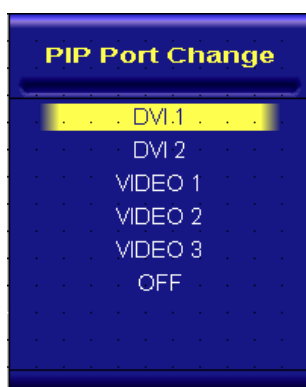

Figure 1
1. Default main screen shows at RGB1 & RGB2→ Press “PIP” KEY→ Figure 1